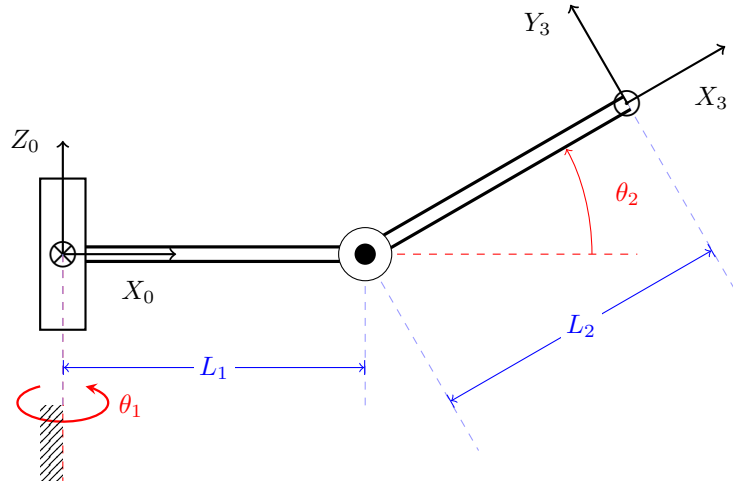

Figure 1: 2R robot (non-planar)
Figure 1 shows a non-planar robot arm with two revolute joints. The base frame (0) and the end-effector frame (3) have been drawn.